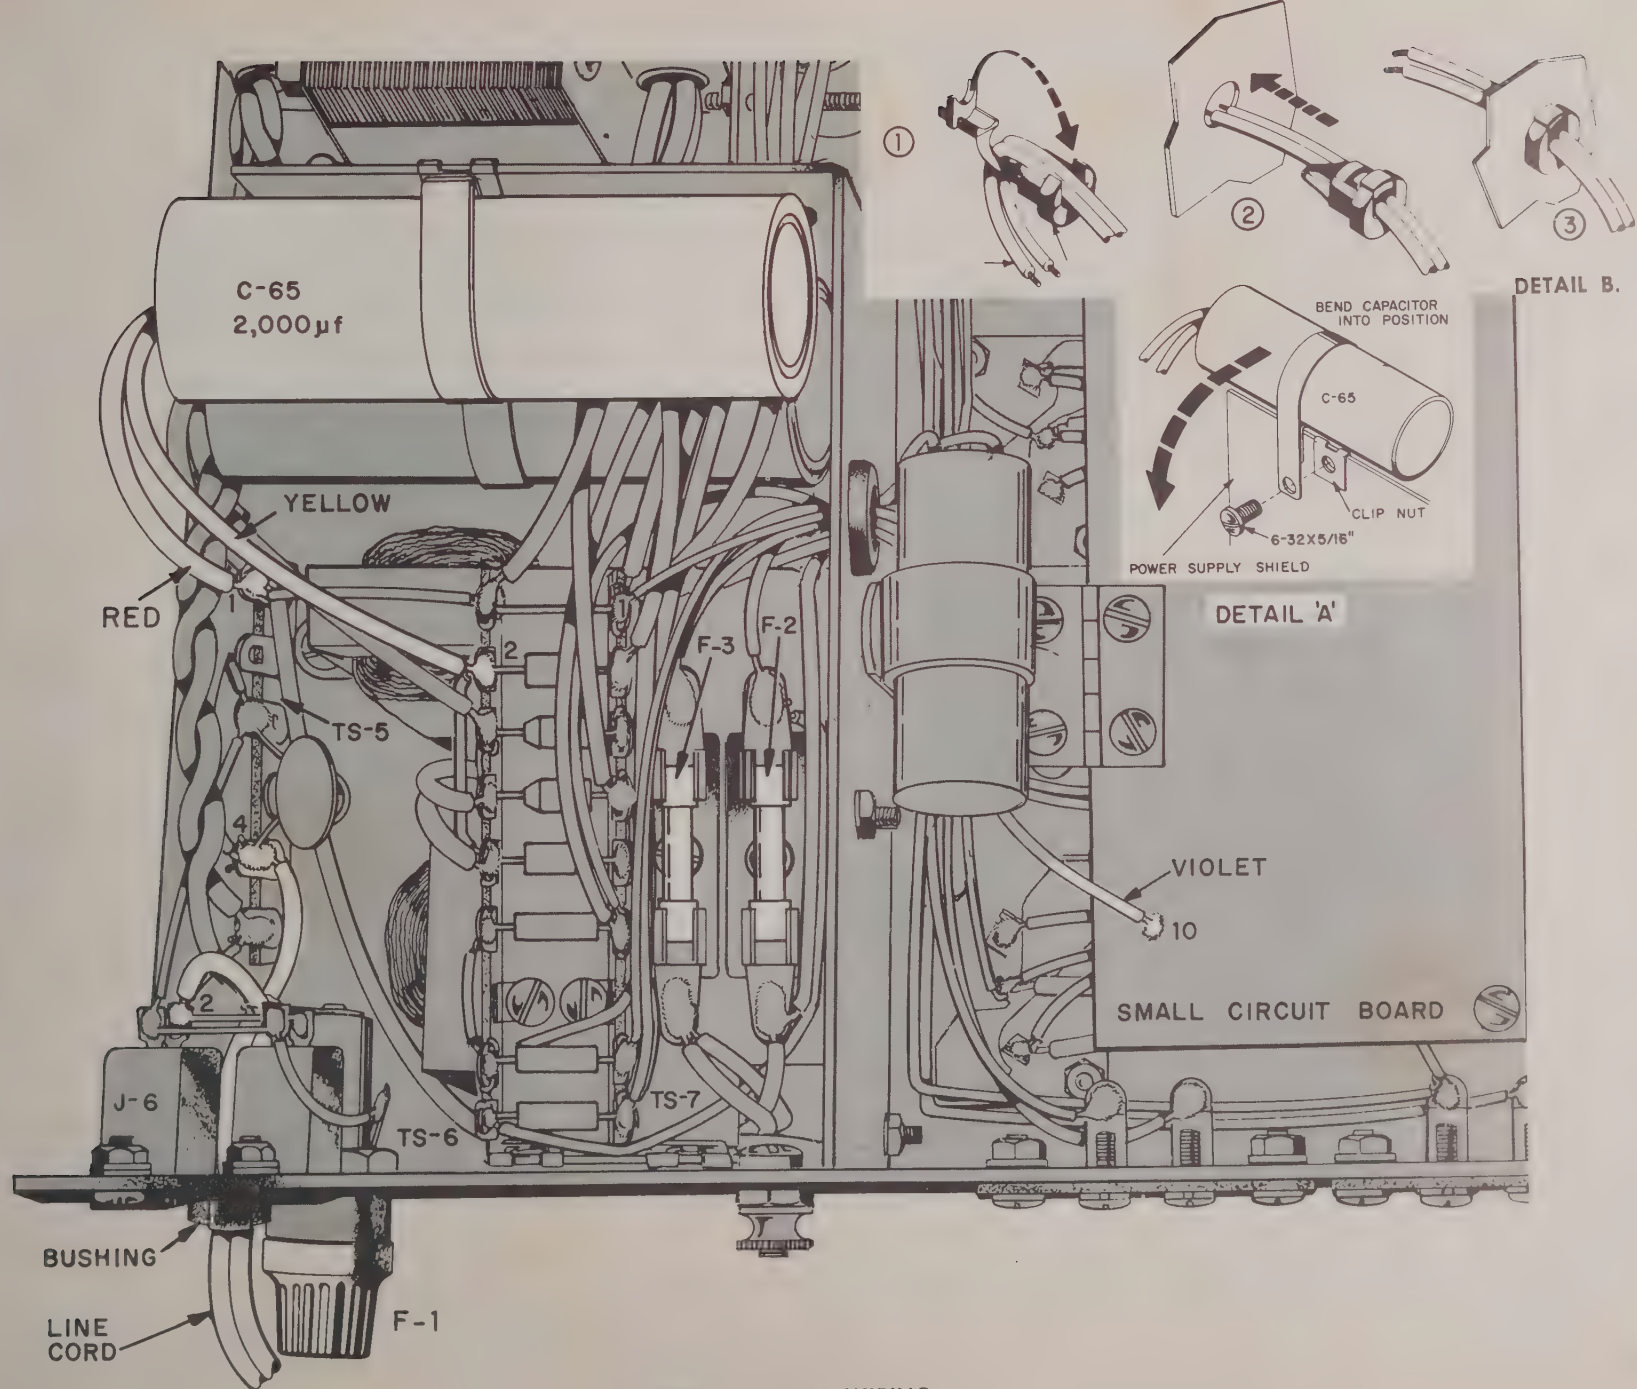

FIGURE 33. FINAL WIRING
- ☒ Small pre-wired circuit board and hinge. Fasten the hinge to the component side of the board with two 4-40 x 3/16" screws, lockwashers and nuts. Refer forward to Figure 33 on page 39 for a picture of the hinge in place. The hinge must be mounted exactly as shown. Now mount the hinge on the two spacers next to the power supply with two 4-40 x 5/16" screws and lockwashers.
SEE FIGURE 33.
- ☒ Line cord and bushing. Install the line cord and bushing, as shown in Detail B on Figure 33. Line cord ends must extend 2" beyond the bushing before snapping the bushing into place. Use pliers to compress the bushing.